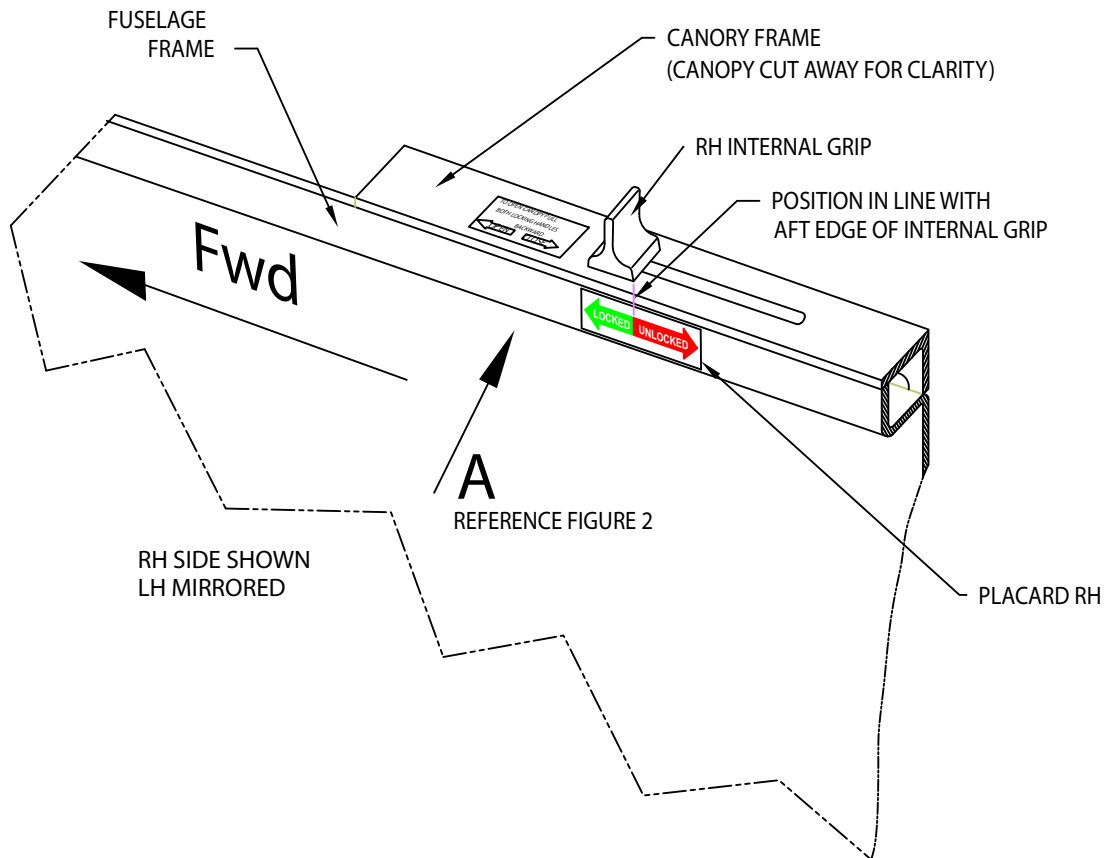

Figure 1 – Canopy Locking Mechanism Placard Installation
Refer to Figures 1 and 2 for further information.
10.3.5 Install Placard LH, Locking Mechanism Position (P/N 20-1130-00-28) as shown in Figure 1.